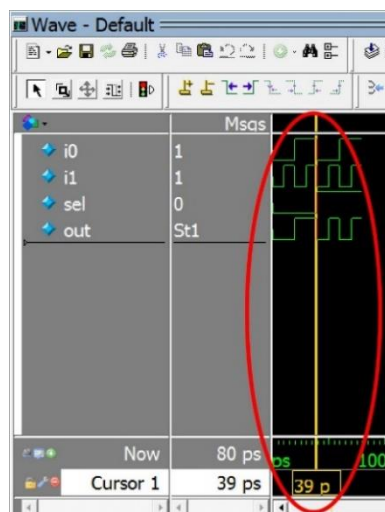
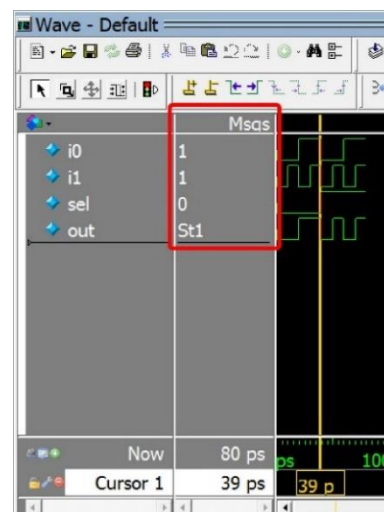

Figure 7: You can move the cursor (yellow line) within the waveform viewer (black background) of the Wave pane.
Figure 8: The values in the Msgs column will automatically update as you move the cursor.
- **View signal values in the Msgs column:** Left-click anywhere within the waveform viewer (the part with the black background) to move the cursor, which is the yellow vertical line with the time in yellow at the bottom (*Figure 7*). The Msgs column will update with the signal values at the time specified by the cursor (*Figure 8*).